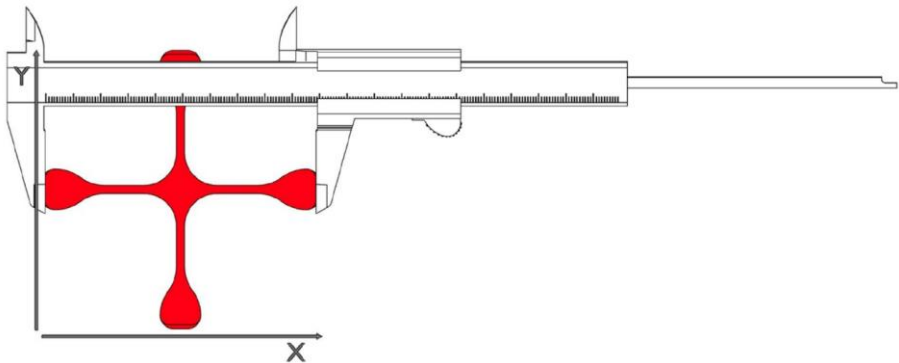

Fig. 73 3D model of the calibration cross
- the measuring point should be above the step located in the model. The step will make it easier to make the measurement at the same height on both sides of the model (fig. 73),